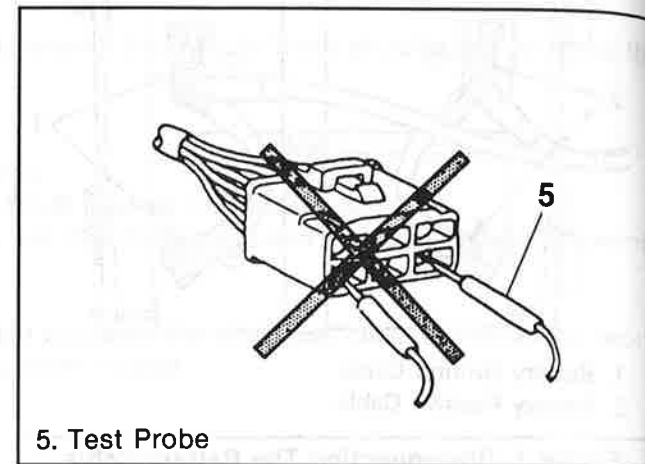

Figure 6. Connector Inspection (2)
CAUTION: Never insert the circuit tester test probes (5) into the connector open side to test the continuity (figure 6). Broken or open connector terminals will result.